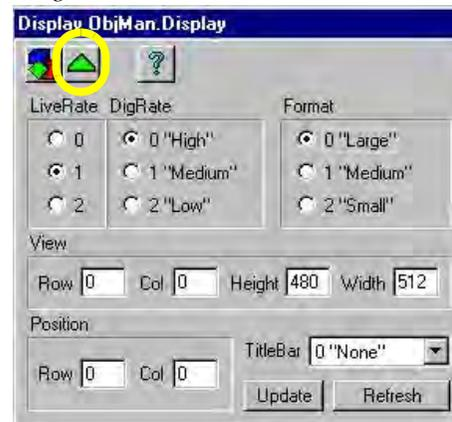

Figure 5-49—Display ObjMan.Display dialog settings
- 2f) On the Display ObjMan.Display dialog, set the DigRate to 0 “High” and the Format to 0 “Large.” Then press the green triangle to return to the Search Search dialog. See Figure 5-49.